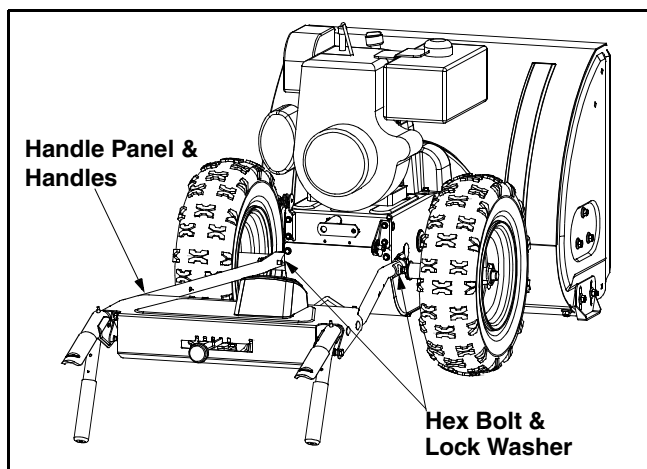

Figure 5
- Lay handle assembly behind snow thrower. See Figure 5.
- Hold the handle assembly up to the bottom of the snow thrower frame and thread the hex bolt into the lower hole in snow thrower frame. Do not tighten at this time. See Figure 5.